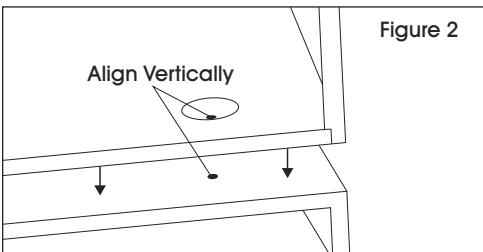

Figure 2
2. When combining modular units to construct a larger rack, place individual racks on top of each other, making sure to line up the mounting holes located on the top and bottom of each unit. (See Figure 2)